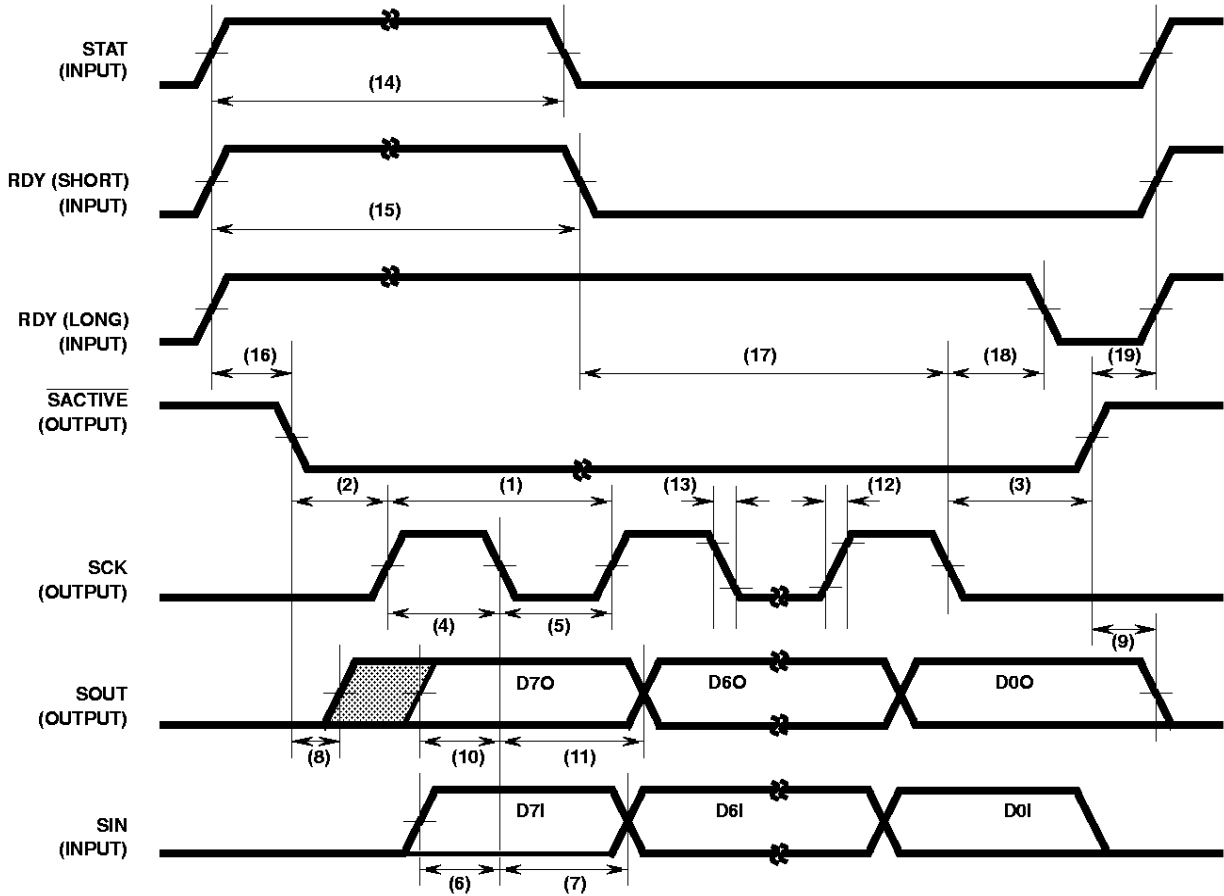

FIGURE 1. SERIAL INTERFACE TIMING DIAGRAM
**Serial Interface Timing** (See Figure 1- Figure 7)  $T_A = -40^{\circ}\text{C}$  to  $+125^{\circ}\text{C}$ ,  $V_{DD} = 5V_{DC} \pm 10\%$ , Unless Otherwise Specified